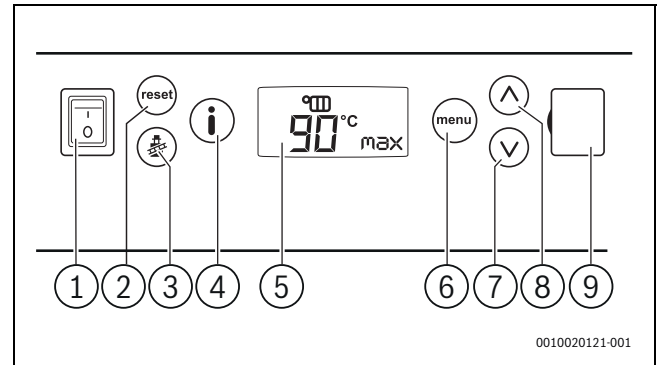

Fig. 5 Control panel
- Put the ON/OFF switch to position "1" (→ figure 5, [1]).